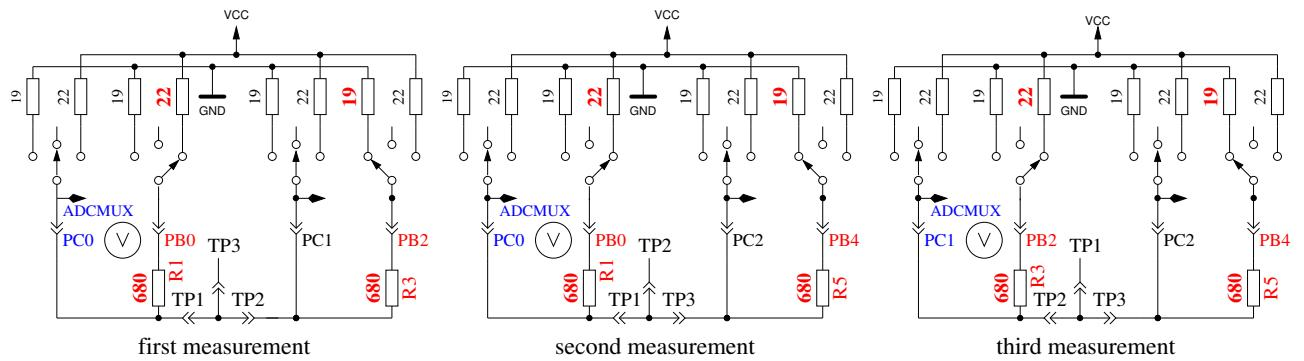

Figure 5.46: Comparison of 680Ω resistors
- 2. Comparing of the 680Ω resistors.** In row 1 the cryptic text “+RL- 12 13 23” is shown. Meaning of this is as follows: The RL is the short form of Resistor Low meaning the 680Ω resistors. The 12 stand for: resistor at pin 1 is connected to VCC (+) and resistor at pin 2 is connected to GND (-). The result of this measurement is displayed in row 2 at the first place as difference to the theoretical value. In row 1 follows now a “13” which means, that the first connection of measurement 1 is still connected with 680Ω to VCC but that the resistor of pin 3 is connected to GND. The result is displayed in the middle place of row 2 as difference to the theoretical value. The last measurement of this test “23.” means that now the resistor at pin 2 is connected to VCC (+) and the resistor of pin 3 is connected to GND. The result of measurement is displayed at the last place of LCR row 2 as difference to the theoretical value. Please remember, that the resolution of the ADC is about 4.88mV! The measurement situation is also shown in figure 5.46. The theoretical value with respect to the internal resistance of the pins should be: $\frac{5001 \cdot (19+680)}{(19+680+680+22)} = 2493$.